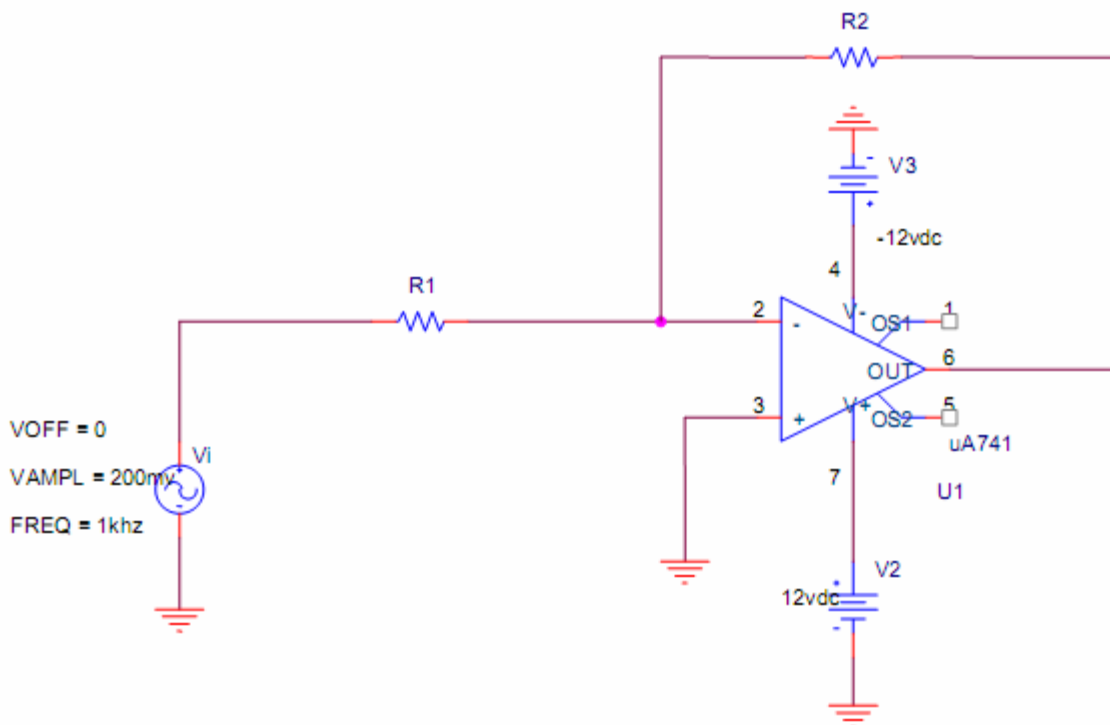

Figure 3-1: Inverting op-amp. Note that the op-amp has been vertically flipped as well as the DC source V3.
*NOTE: Pay close attention to the orientation of the op-amp in figure 3-1. The op-amp has been flipped vertically to make the wiring easier. The voltage source V3 has also been flipped.